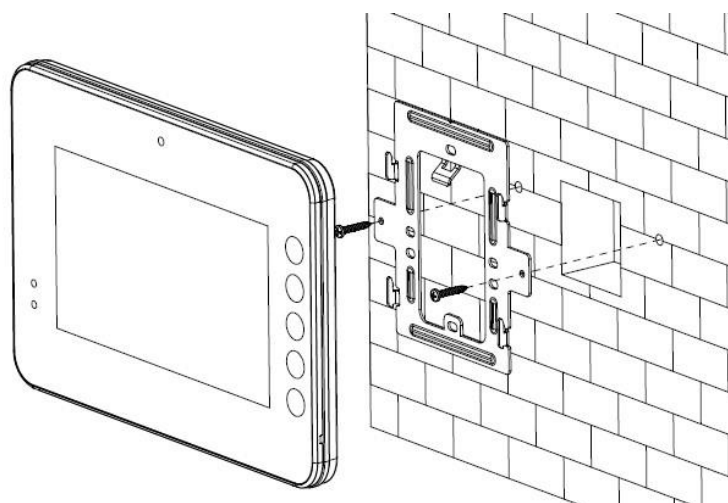

Figure 5-2
- Fix the device on the installation bracket and then use the clip to secure. See Figure 5-2.